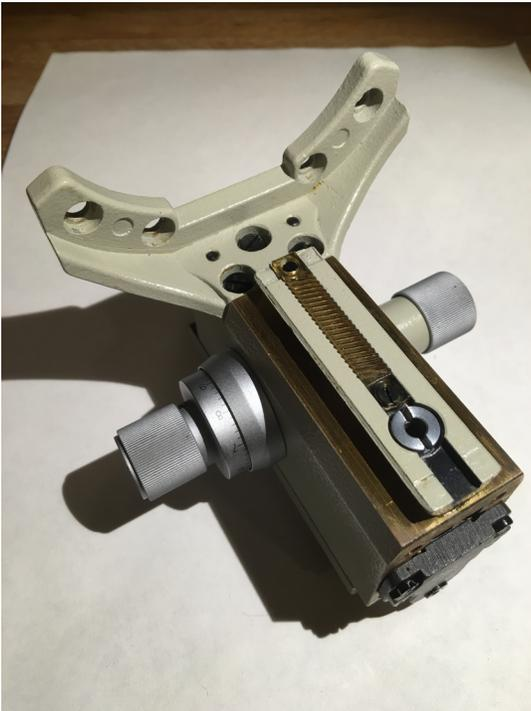

Figure 5
* Remove the two screws that fasten the flat clear plastic gear atop the dovetail track. Note the position of the ends of the plastic gear, because they are different. Also note that the screw heads are different on the underside— one is beveled and the other is flat. The holes in the plastic gear are countersunk to correspond to those screws. (Figure 5)